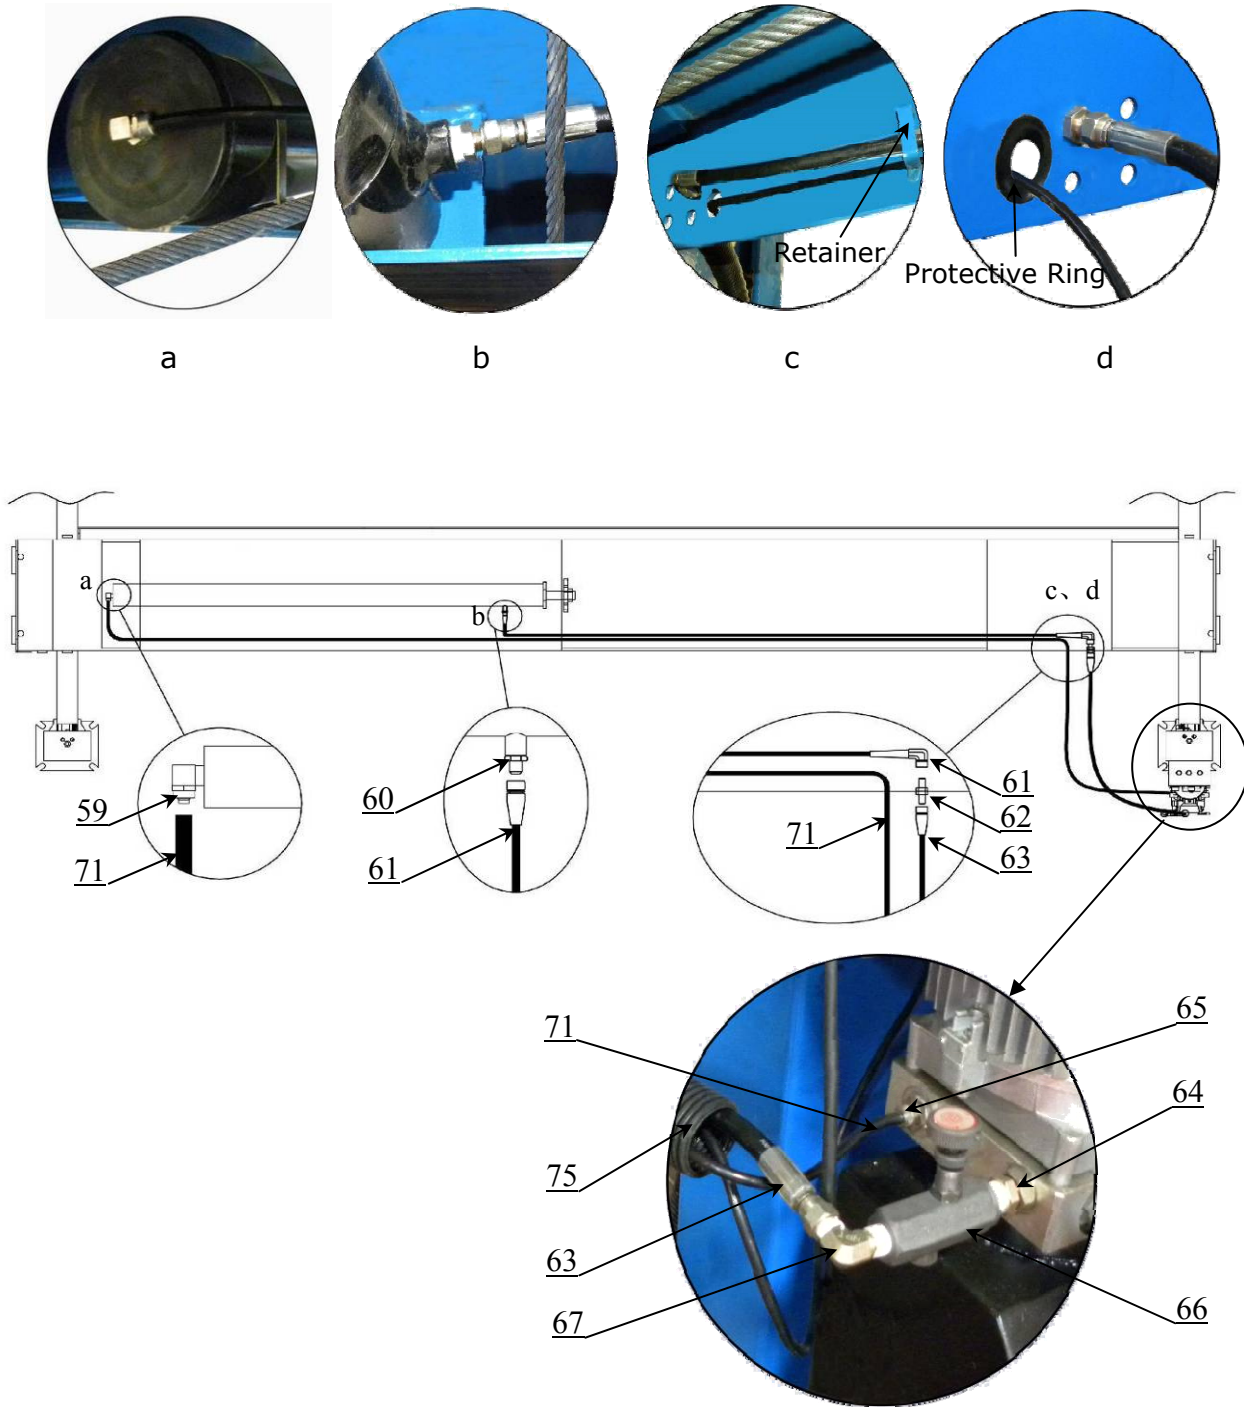

Fig. 25
L. Install Hydraulic System (See Fig. 25).